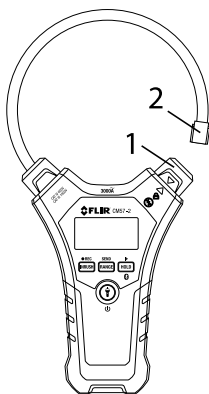

Figure 5.1 Opening the Flex clamp.
2. Turn the clamp lock (1) counterclockwise to release the flexible clamp (2). Refer to Fig. 5.1.